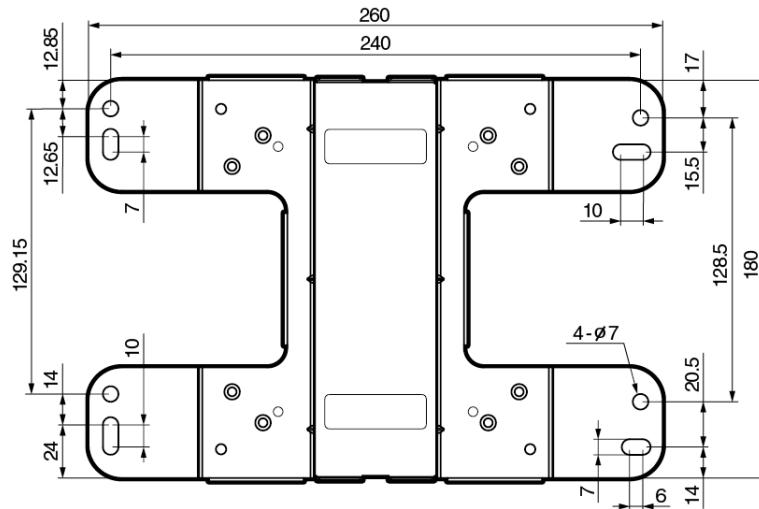

Figure 14. Base Plate Hole Dimensions
2. Using the mounting base as a template, mark four holes with a pencil. See Figure 14 on page 42 for hole dimensions.
1. Using the mounting base as a template, mark four holes with a pencil. See Figure 14 on page 42 for hole dimensions.